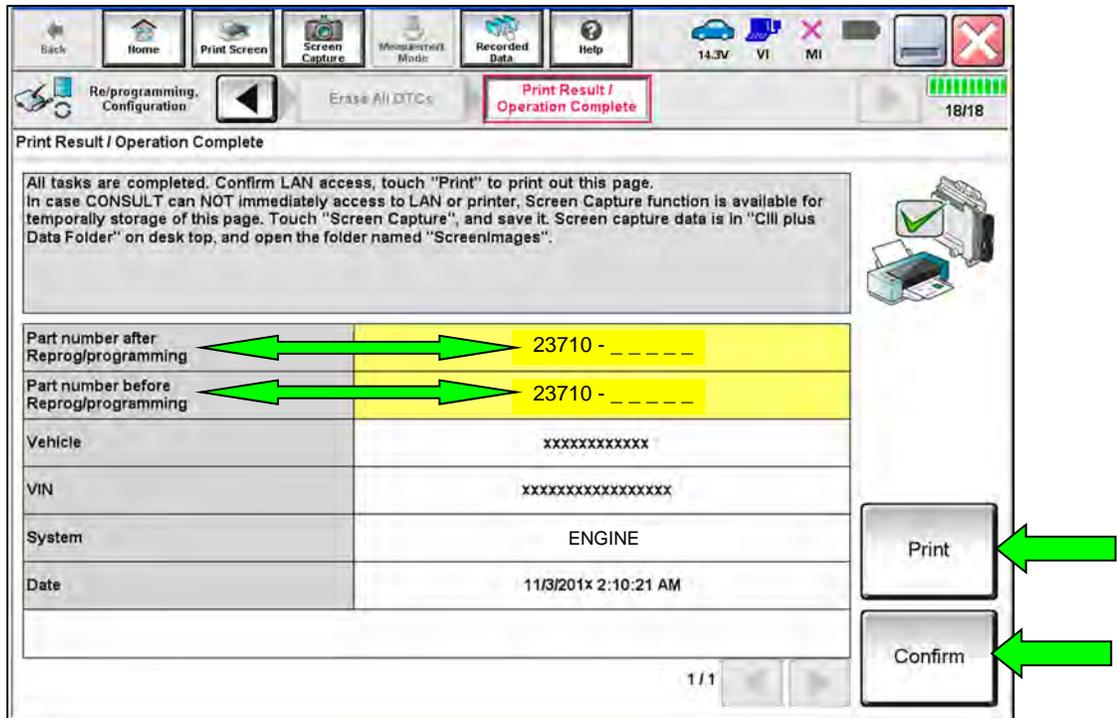

Figure 23
- When the entire reprogramming process is complete, the screen in Figure 23 will display.
30. Print a copy of this screen (Figure 23) and attach it to the repair order for warranty documentation.